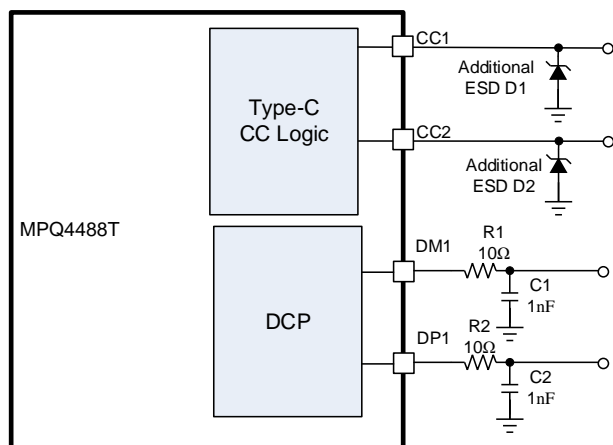

Figure 11: Recommended I/O Pins ESD Enhancing
Higher ESD levels should be considered for all USB I/O pins. The MPQ4488T features high ESD protection up to $\pm 8\text{kV}$ human body model on DP, DM, USB1, and USB2, and $\pm 5.5\text{kV}$ human body model on CC1 through CC4. The ESD structures can withstand high ESD both in normal operation and when the device is powered off. To further extend DP and DM's ESD level for covering complicated application environments, additional resistors and capacitors can be added (see Figure 11).
13) See Figure 11 for I/O pins' ESD protection enhancing details.